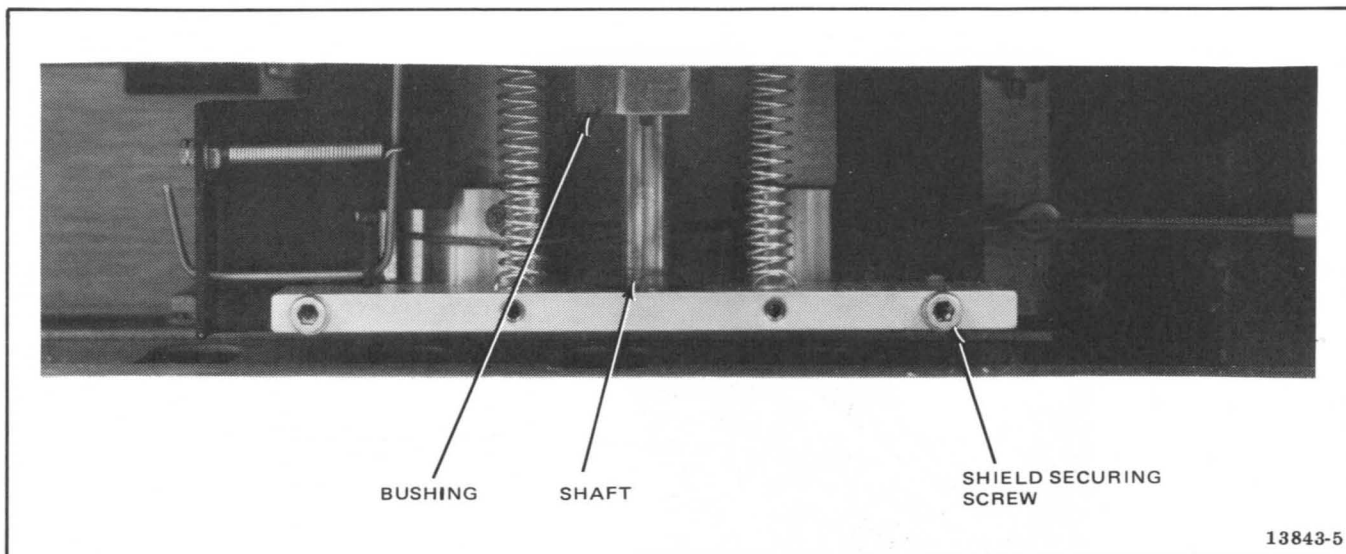

Figure 5-30. Head Gate in Latched (Down) Position, Front View of Transport
2. If required, loosen shield-securing screw shown in Figure 5-30 and slightly raise or lower right-hand side of shield (as viewed from the front of recorder/reproducer) to align head gate shield with head shield. Tighten screw.